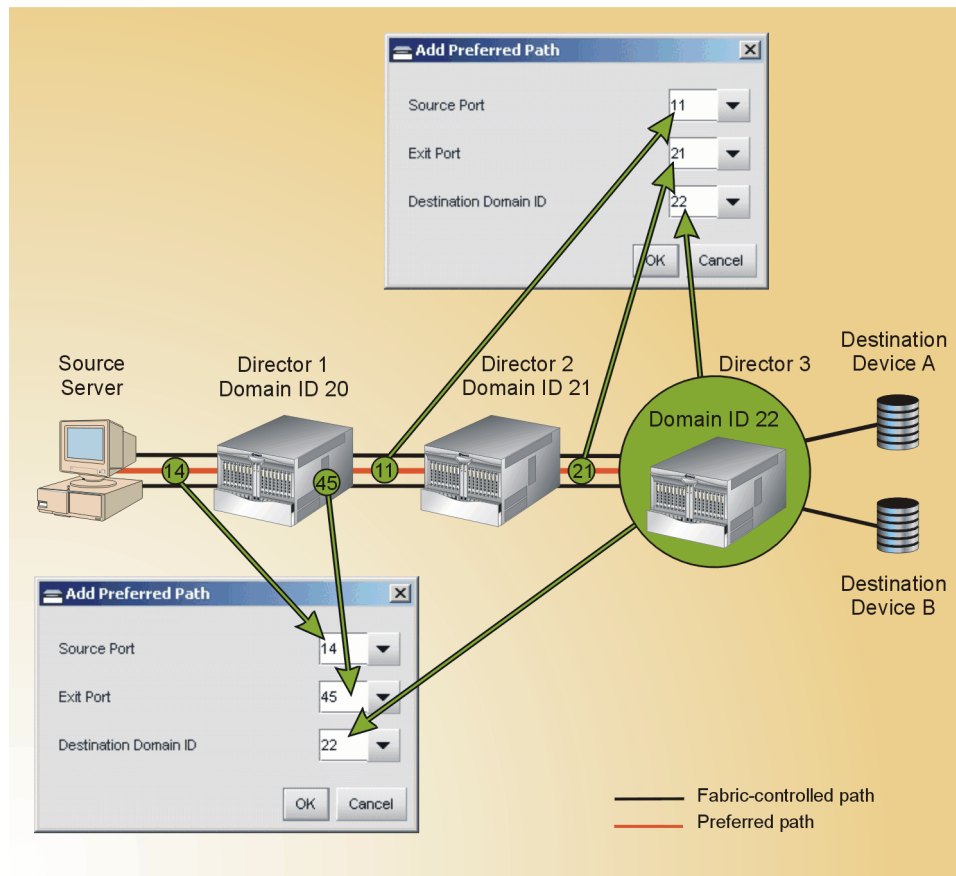

Figure 59: Preferred Path Configuration
As an example, refer to the three-director preferred path illustrated in Figure 59. A preferred path is configured between a source server and destination device (**A** or **B**), traversing Director **1**, Director **2**, and Director **3**. To configure the preferred path through the first director:
2. Click **Add**. The **Add Preferred Path** dialog box displays (bottom of Figure 59).
2. Click **Add**. The **Add Preferred Path** dialog box displays (top of Figure 59).